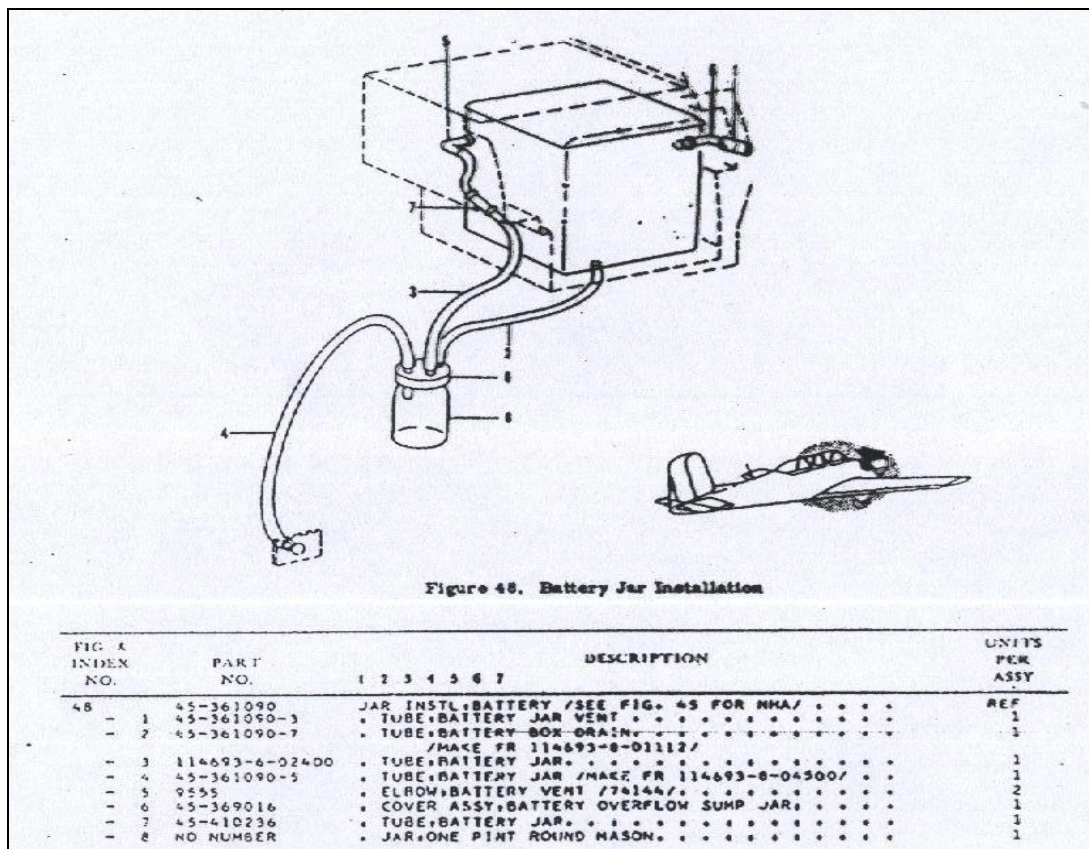

Fig. 1.2. Installation Drawing
- II. Drawing Sheet:** - A variety of drawing sheets are available in the market. Generally drawing sheets are of A0 size and the other sizes can be obtained by cutting the A0 size sheet as shown in Fig 1.2. The preferred sizes of the sheet as selected from IS 10711:1983 are given in Table 1.2.